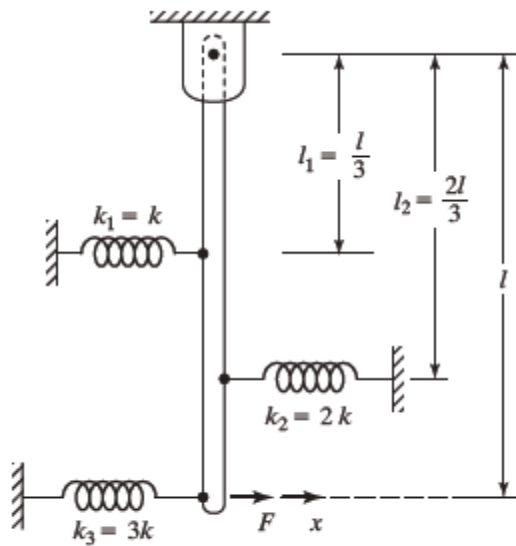

FIGURE 1.86 Rigid bar connected by springs.
- 1.31 Derive the expression for the equivalent spring constant that relates the applied force F to the resulting displacement x of the system shown in Fig. 1.86. Assume the displacement of the link to be small.